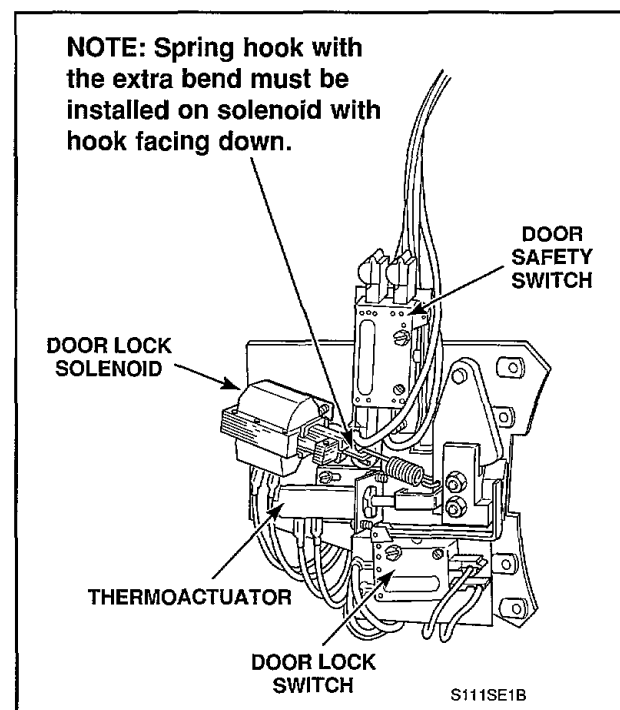

Figure 23
NOTE: When connecting spring to solenoid, hook on spring must be facing down, *Figure 23*.
- b. Remove four screws holding solenoid to bracket, *Figure 23*.
- b. Remove two screws, nut and lockwasher holding switch to bracket, *Figure 23*.
- b. Remove two screws holding the thermoactuator to bracket, *Figure 23*.